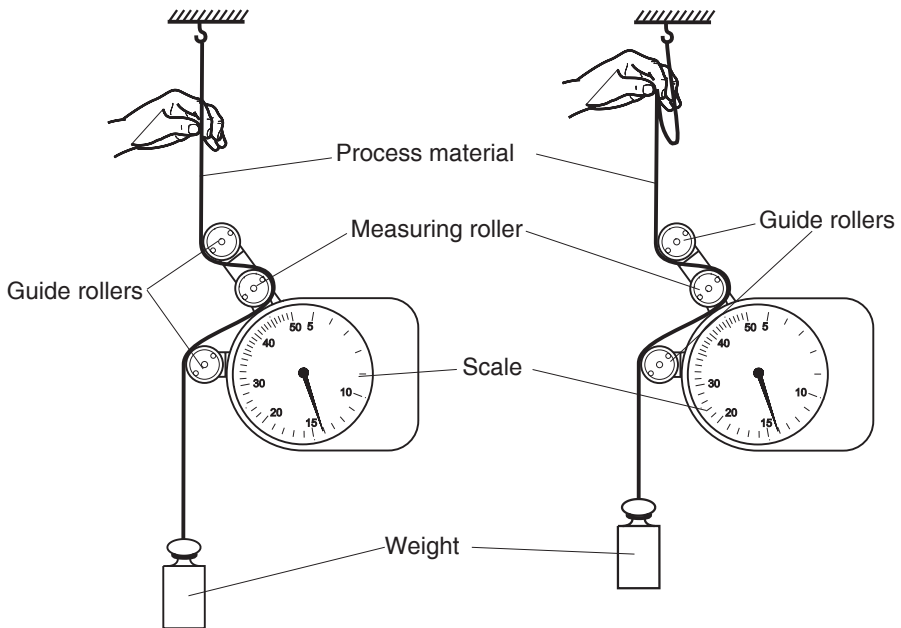

fig. 3.4
- Suspend a known weight that corresponds to the tension to be measured (pay attention to the correct unit of measure) from the process material, vertically, as shown in fig. 3.4 (Always use a fresh portion of the material to be measured).